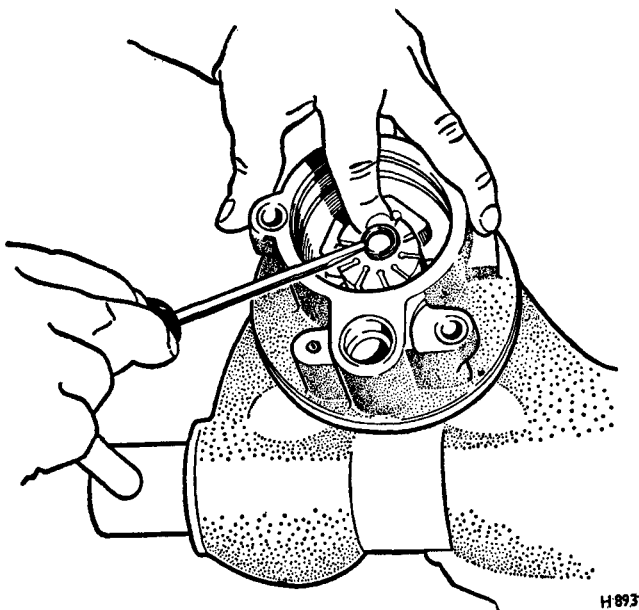

FIG. N14 REMOVING THE ROTOR SNAP RING
17. Remove the snap ring (*see Fig. N14*) from the inner end of the drive-shaft then remove the rotor and thrust plate.